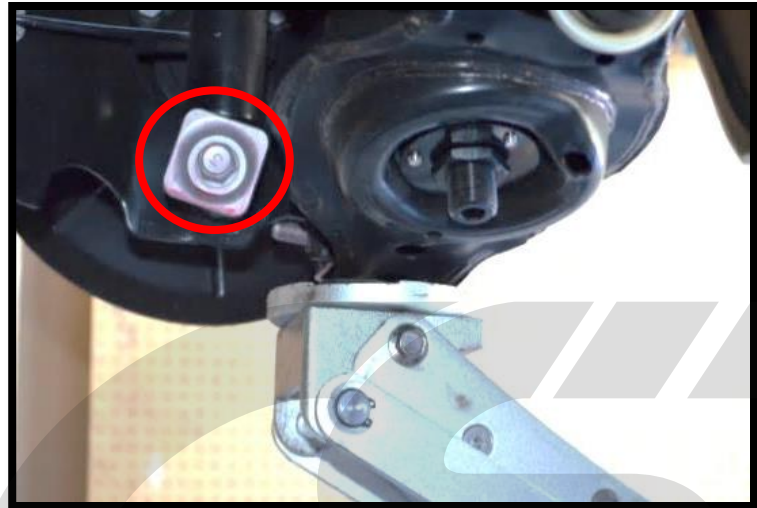

Figure 6c
e) **Place a jack under the rear control arm** and remove the 17mm bolt that holds the shock to the spindle (see **Figure 6c**).